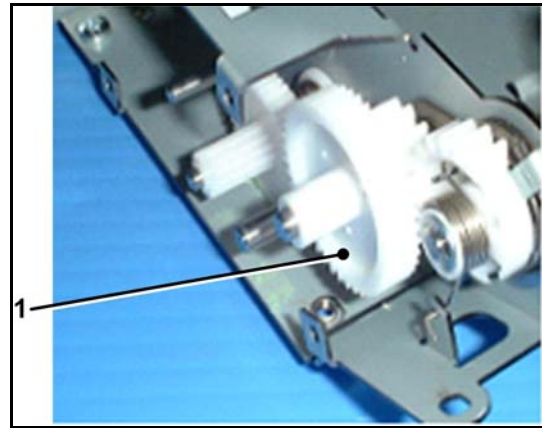

Figure 21
28. Install the new Gear D on to its spindle (see Figure 21). Make sure that the teeth on the small gear wheel engage correctly with Gear E.